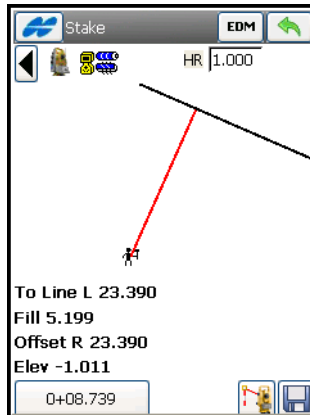

Figure 9-22. Stakeout Line
- For TS: sight the prism. On the **Stake Point** screen, tap the  button to check the position (Figure 9-22). Once the position is close enough to the line and at the desired distance from the starting point, tap  to store it.